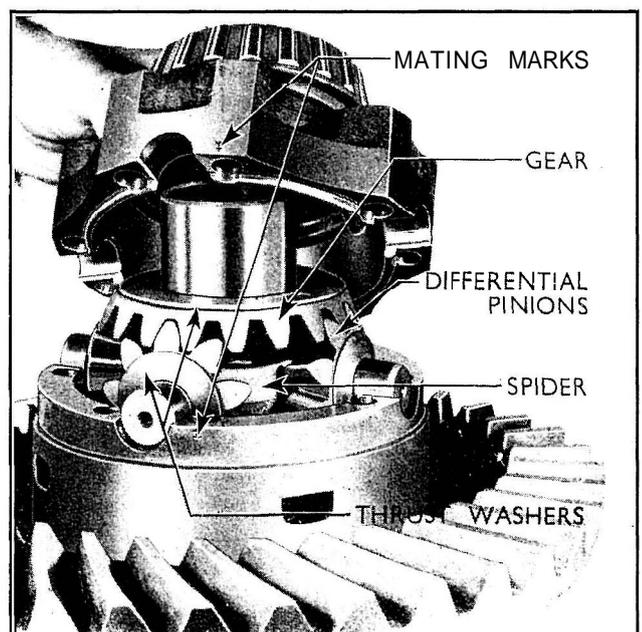

Fig. 175
- 1 To separate the differential housings, remove the eight wired bolts, note that the housings are marked (see Fig. 175).